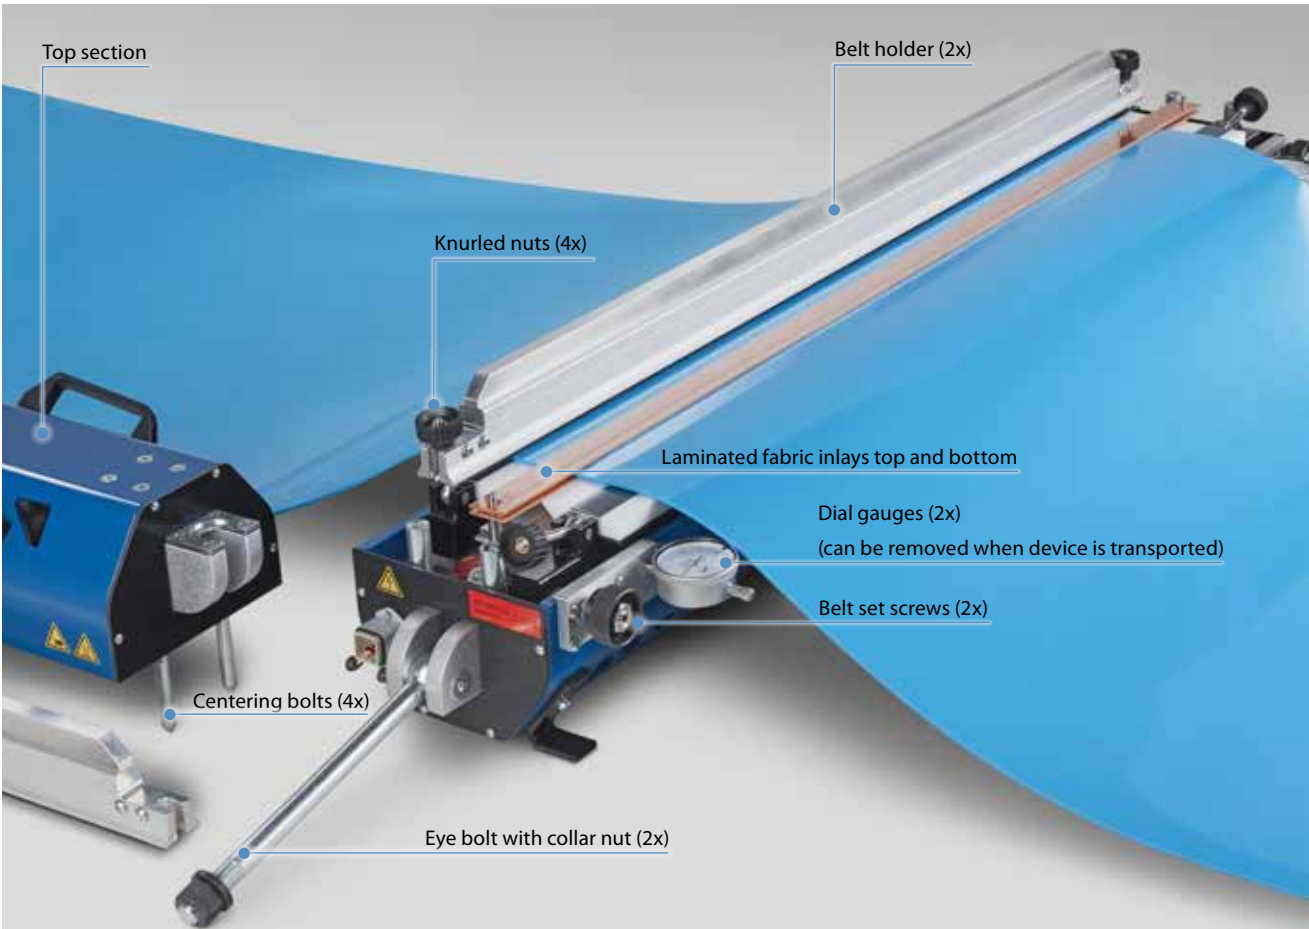

Fig. 2.1.3
- Laminated fabric inlay (compensation profiles made of laminated fabric), (see fig. 2.1.3)